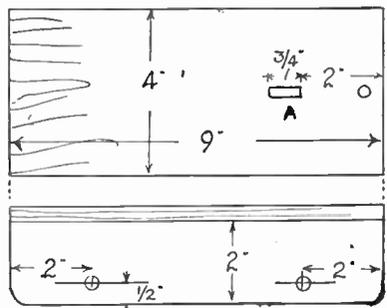

Fig. 1
The platform is shown in plan and elevation at Fig. 1. Make it from $\frac{3}{4}$ in. deal. Cut the platform to dimensions given, and on a centre line, at the distance from the fore end shown, cut the slot (A) about $\frac{1}{4}$ in. wide. The sides of the platform, cut to length and width, have holes for the axles of the wheels bored in the positions indicated in the diagram. As the axles are pieces of $\frac{3}{8}$ in. round rod, the holes will, of course, be bored to suit. Make the inside of these holes smooth with glasspaper to better ensure the smooth running of the wheels. A strip of the glasspaper rolled round a pencil will do this job.